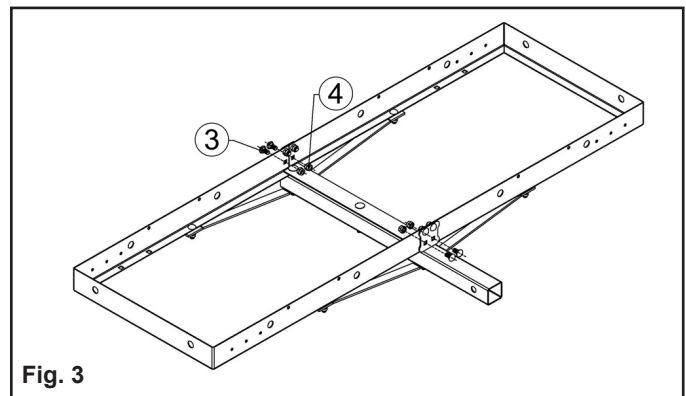

Fig. 3
- Figure 3:** Thread the remaining four (4) M10x20 carriage bolts (part# 3) through the bottom holes of the frame halves near each end of the tie plate, securing them with the remaining M10 lock nuts.